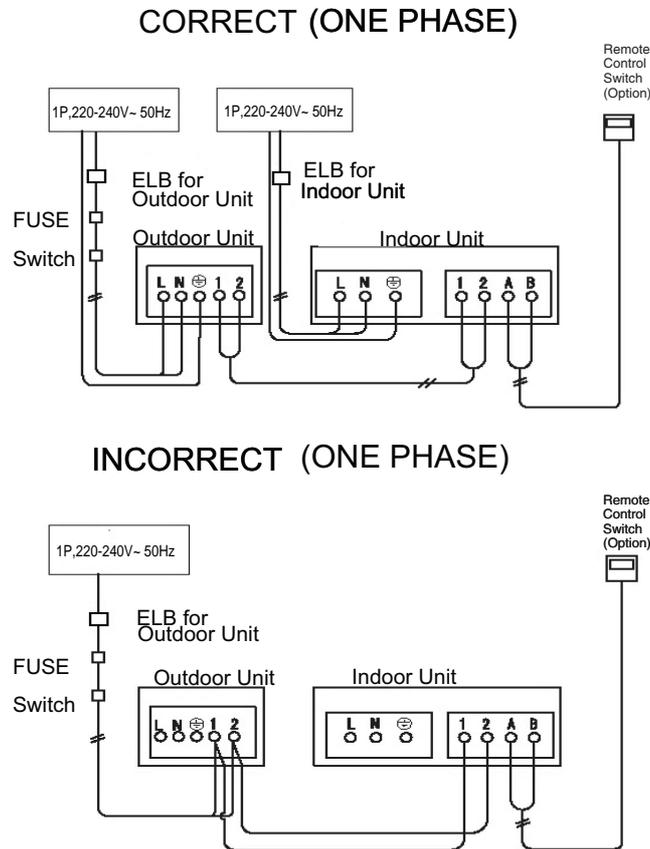

Fig. 6.1 One phase indoor unit and outdoor unit communication wire connection
- (2) Connect the wires between the outdoor and indoor units to terminals 1 and 2 on the terminal board. If power supply wiring is connected to 1 and 2 of terminal board (TB1), printed circuit board will be damaged. Refer to Fig. 6.1.